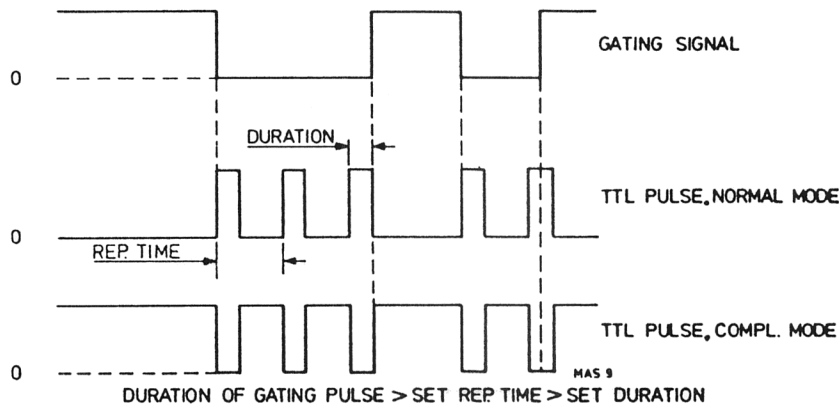

Fig. VI-13 Gated pulse PM 5704
- Select the proper relationship between internal pulse repetition time and duration and corresponding parameters of the gating signal. Refer to fig. VI-13.
- Depress switch SINGLE SHOT and note that generator is turned off as long as switch is depressed. Refer to fig. VI-13.